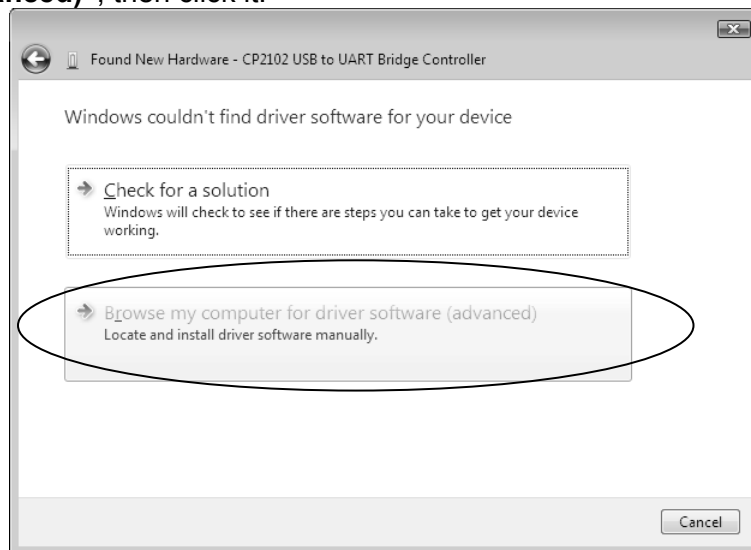

Fig. 50 New Hardware search wizard
(13) Click **Next** and the screen shown in Fig.50 appears. Select **"Browse my computer for driver software (advanced)"**, then click it.